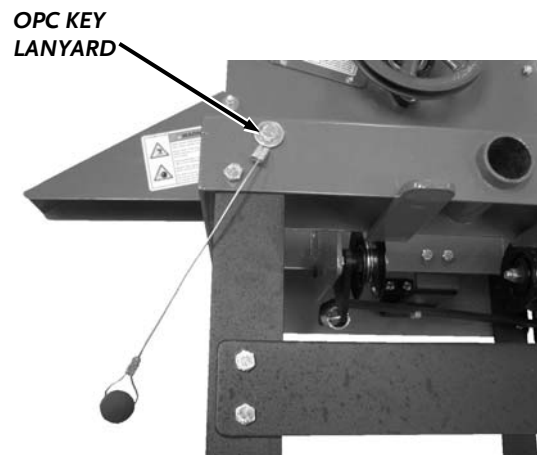

Figure 7
6. Install the OPC Override Tether using the Leg Hardware and Washer (**Figure 7**).